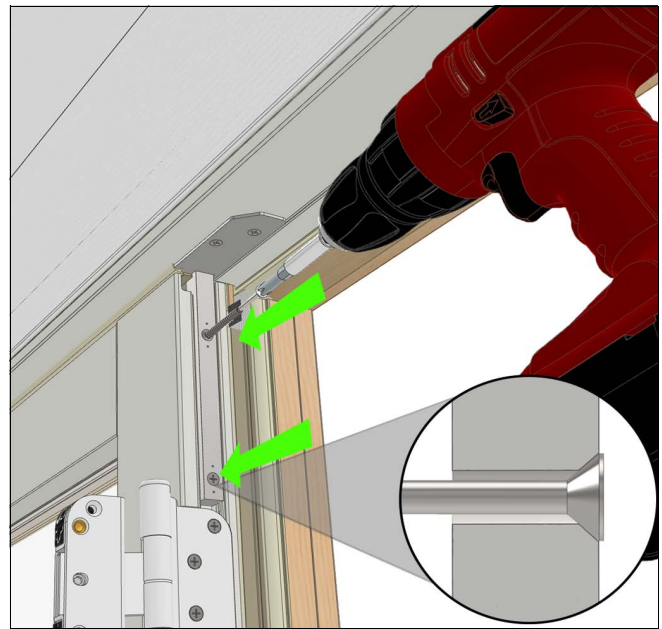

Figure 30
5. Install the 2-1/2" stainless flat head screw into the hole left by removing the panel screw. Drive until it sits flat with the lock bar face. Remove one screw (pan head from each panel). Pre-drill and fasten another 2-1/2" stainless screw into the other hole until it sits flat with the lock bar face. See Figure 30.